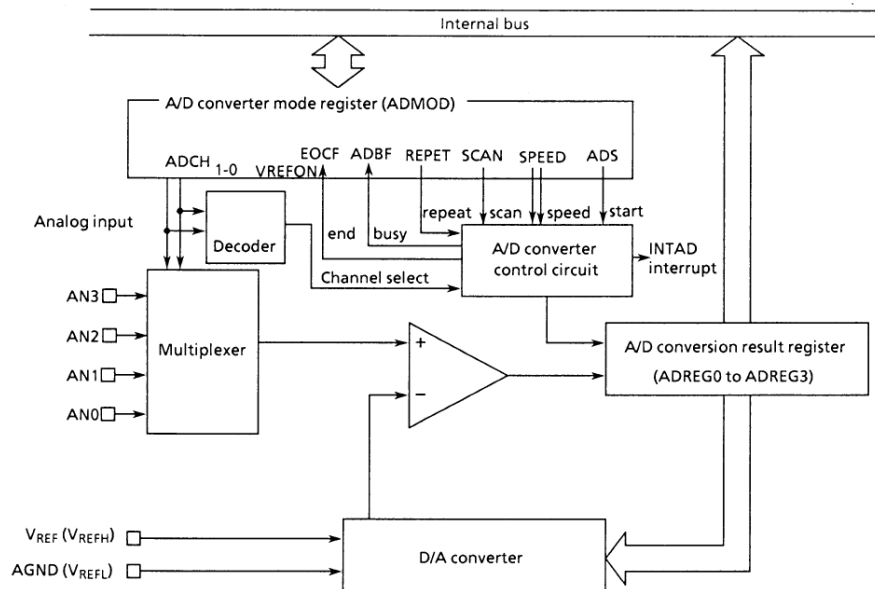

Figure 3.12 (1). Block Diagram of A/D Converter
Figure 3.12 (1) shows the block diagram of the A/D converter. The 4-channel analog input pins (AN3 to AN0) are shared by input-only P9 and so can be used as input port.